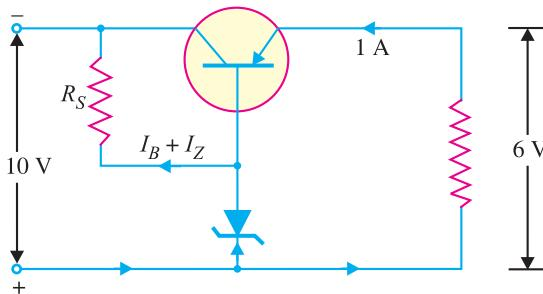

Fig. 17.14
**Solution.** The design steps require the determination of zener breakdown voltage and current limiting resistance  $R_S$ . Fig. 17.14 shows the desired circuit of series voltage regulator.